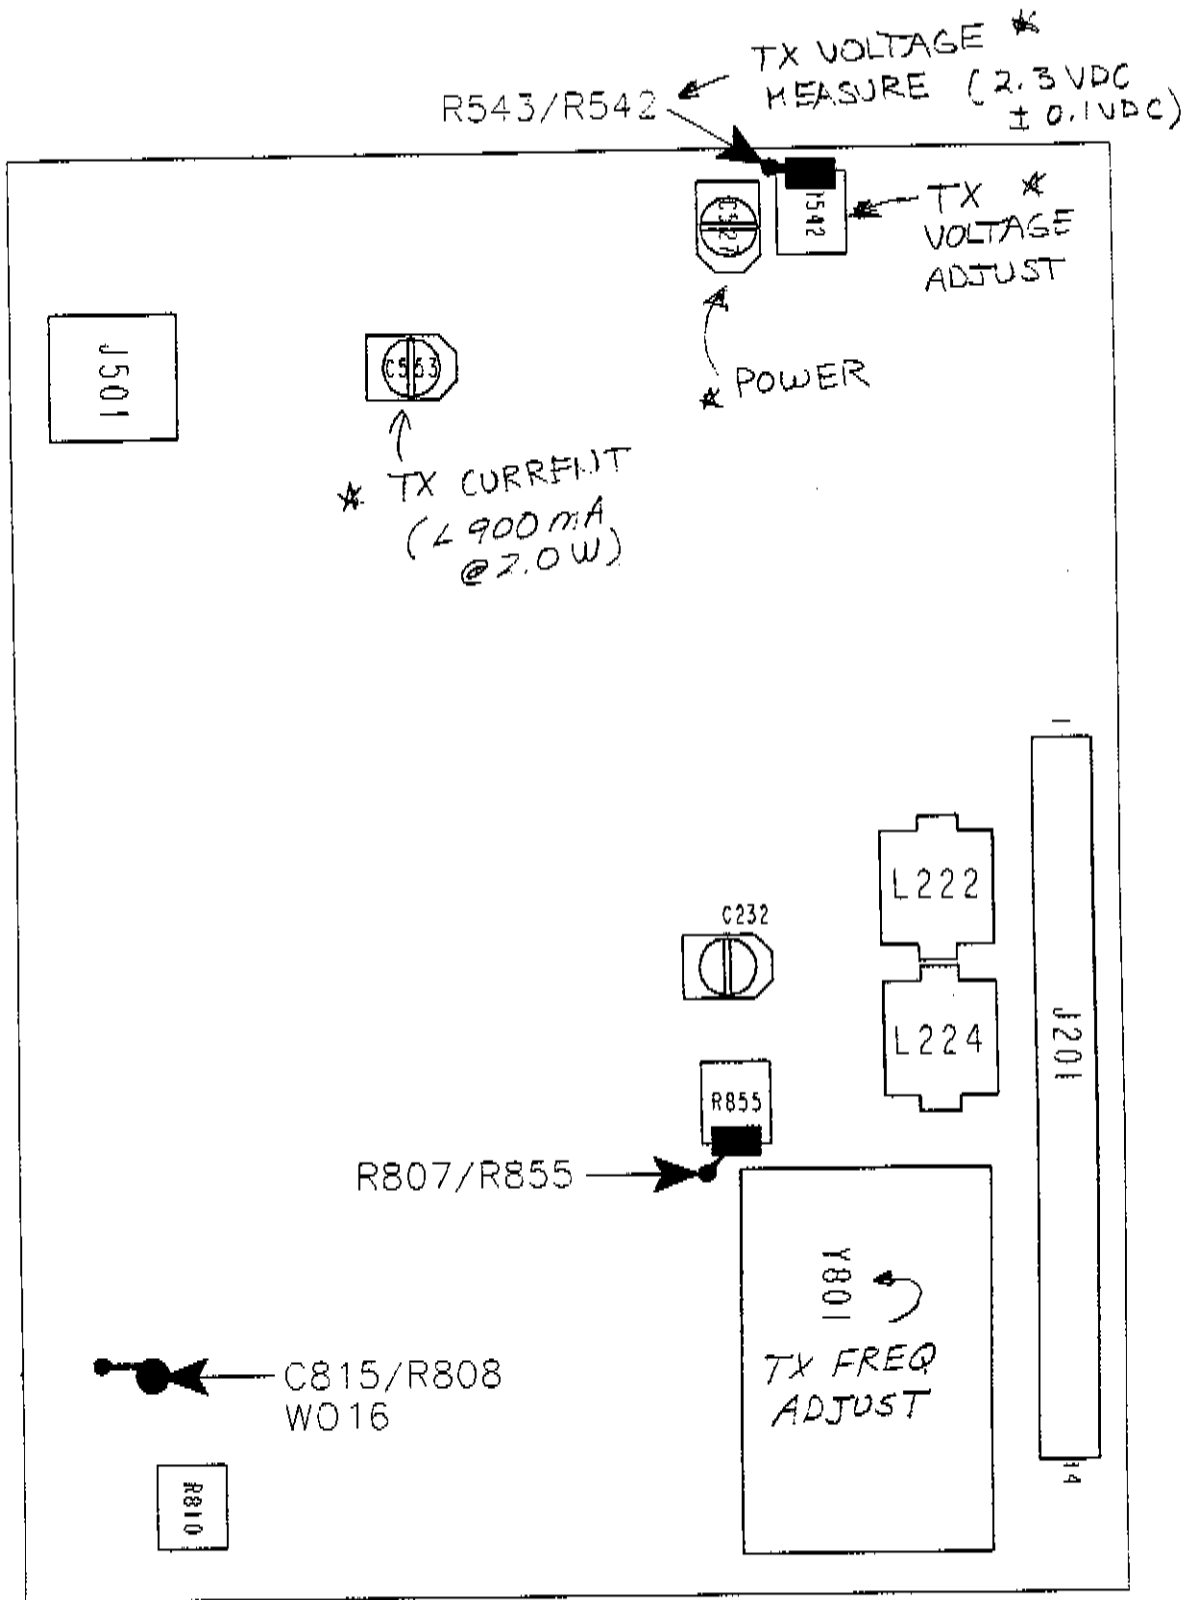

Figure 6-3 ALIGNMENT POINTS DIAGRAM
Receiver or transmitter alignment may be necessary if repairs are made that could affect tuning. Alignment points diagrams are located in Figure 6-3 or component layouts are located in Section 8.
3. Connect a DC voltmeter at the junction of R808/C815 to measure the VCO control line voltage for a meter reading of  $\geq 0.50 - \leq 4.90V$  DC (see Figure 6-3).